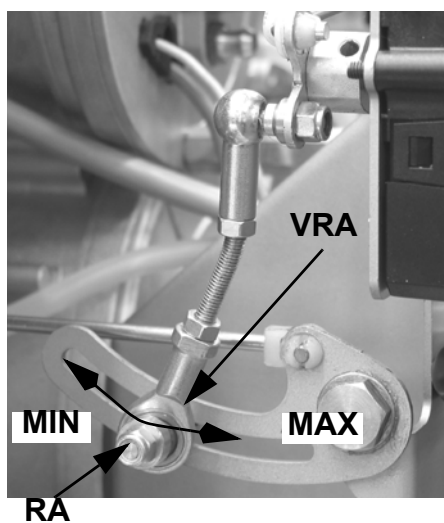

Fig. 17
- 13 The comburent air adjustment must be performed by means of the servocontrol. The servocontrol rotation must be equal to 90° (page 23). The air damper's opening in the high flame stage is imposed by the adjusting cam on Fig. 17. To adjust the air flow rate, slacken the nut **RA** (Fig. 17) and move the lever **VRA** through the slot as shown in Fig. 17, to increase or decrease the air rate, until the desired rate is obtained; lock then the nut **RA** in this position.